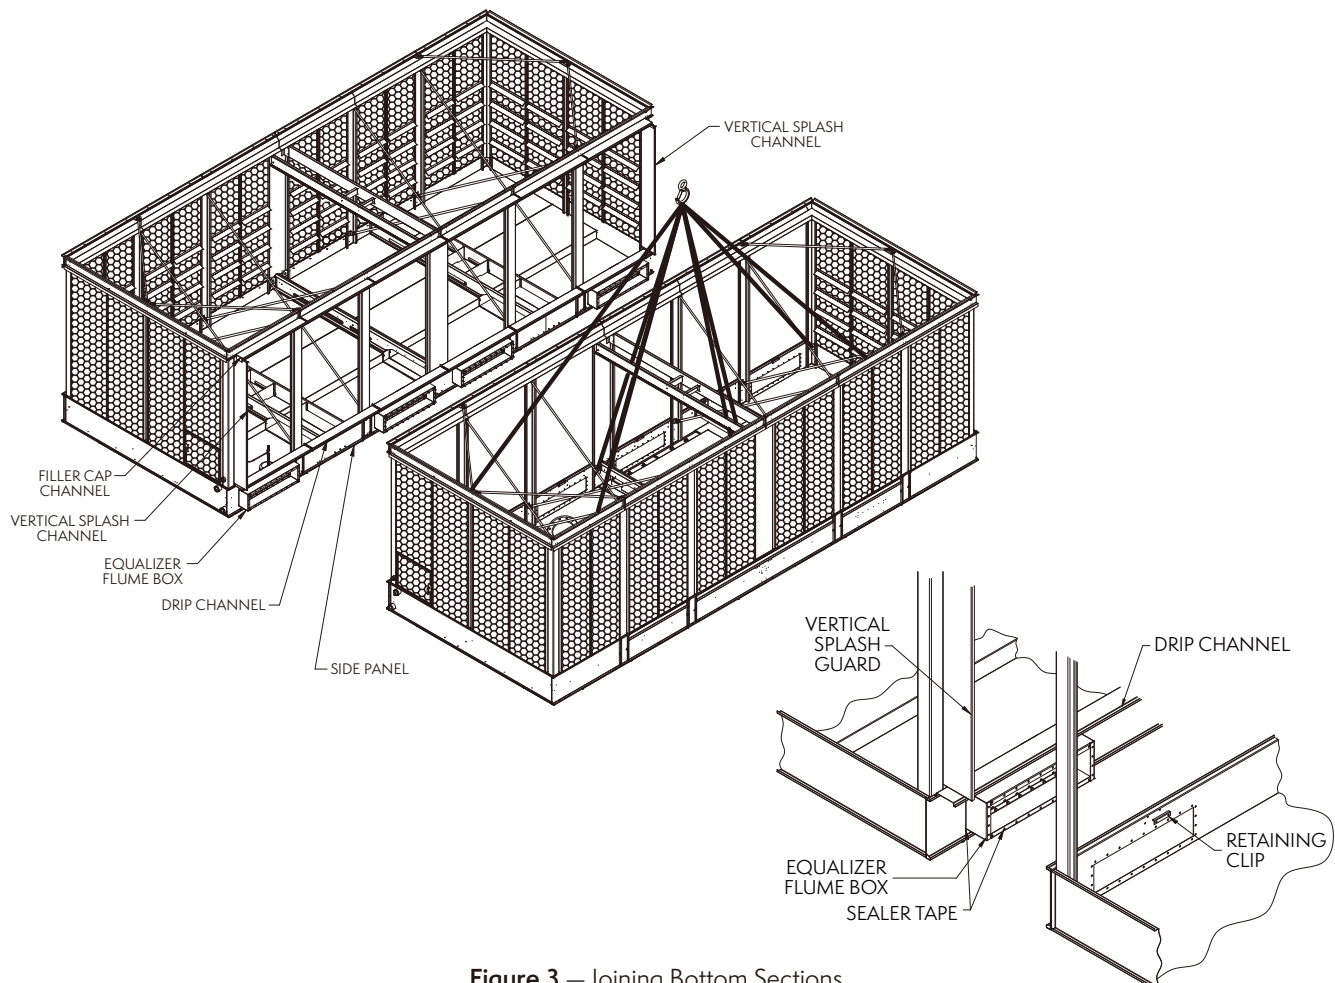

Figure 3 — Joining Bottom Sections
6. Rig the second basin adjacent to the equalizer flume on the steel support as shown in **Figure 3**.
3. Add sealer tape to bottom of vertical splash guard. Place the vertical splash guard in the bend of the vertical supports. On galvanized units, attach the vertical splash guard using 5/16" (8mm) self-tapping screws. On stainless steel units, attach the vertical splash guards using 5/16" (8mm) stainless steel nuts and bolts. (See **Figure 3**)
4. Once the bottom of the vertical splash guard has been attached to the drip channel, place the filler cap channel in the upper flanges of the basin as shown in **Figure 3**. Attach to vertical splash guards using 5/16" (8mm) tappers (for galvanized units) or stainless steel nuts and bolts (for stainless steel units).